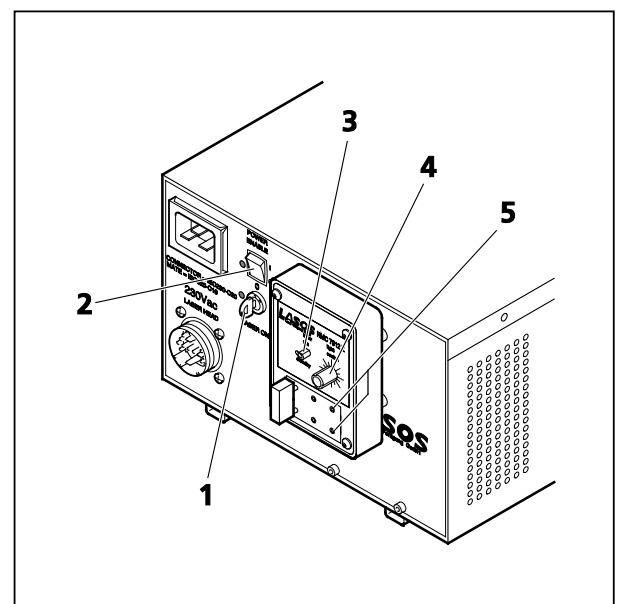

Fig. 2 Power supply of Ar-ML laser
- If the Ar-ML laser is required, switch it on via the toggle switch (Fig. 2/2) on the power supply and turn the key (Fig. 2/1). The laser is automatically kept in standby mode for 5 minutes to warm up.
- Set the idle-run-switch (Fig. 2/3) to run. It takes about 50s until the laser has reached the set output power (green LED) provided the warm up time of 5 minutes is already completed.
- Adjust the required power level with the control knob (Fig. 2/4) (default position should be 11 o'clock).